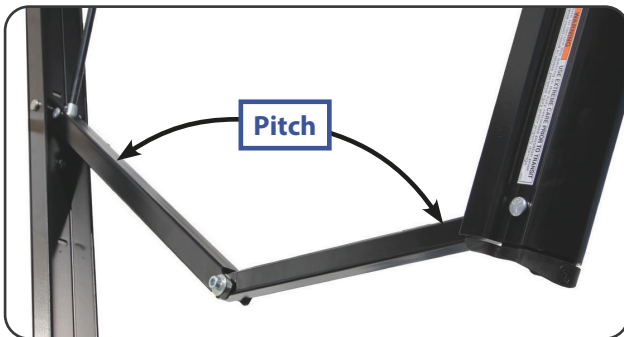

Fig. 5
4. Pull downward on the joint of the articulating arm until desired pitch is set (Fig. 5) to allow for water runoff.